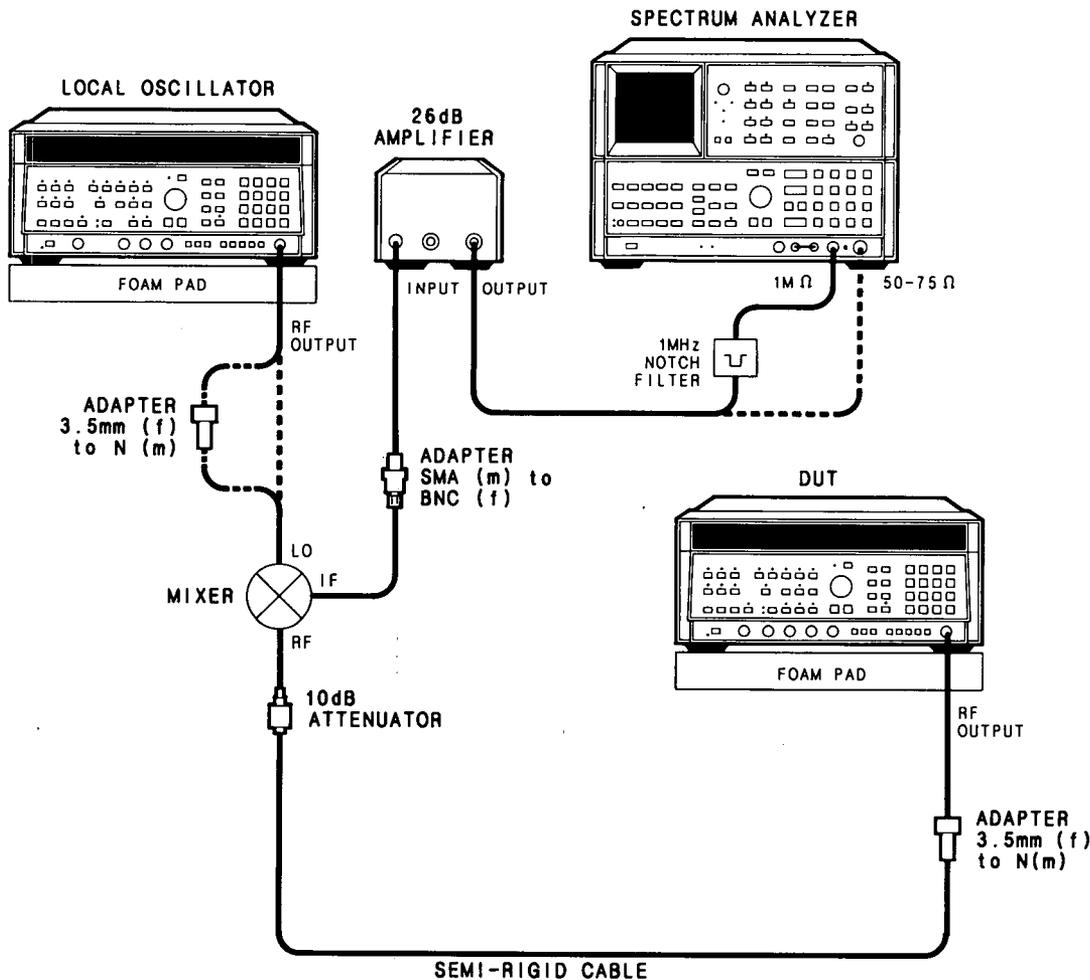

Figure 4-8. Single Sideband Phase Noise Test Setup
1. Connect equipment as shown in Figure 4-8 with the amplifier connected directly to the HP 3585A 50 Ohm input.
The foam pads shown in Figure 4-8 are required to isolate the DUT and LO from mechanical vibrations which could induce phase noise.
17. Connect 1 MHz Notch Filter as shown in Figure 4-8. Select 1 MOhm input impedance on the HP 3585A.
32. Connect the equipment in Figure 4-8 with the 1 MHz Notch Filter connected. Select the 1 MOhm input impedance on the HP 3585A.